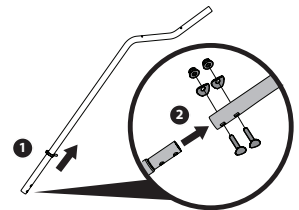

Figure 15
- Feed upper control tube (749-05855A) through guide ring on lift handle. See (1) in Figure 15.
- Working from inside-out, attach upper control tube (749-05855A) to lower control tube (749-07634) with two curved carriage bolts (710-1250), two curved washers (736-0451) and two hex flange lock nuts (712-04063). See (2) in Figure 15.